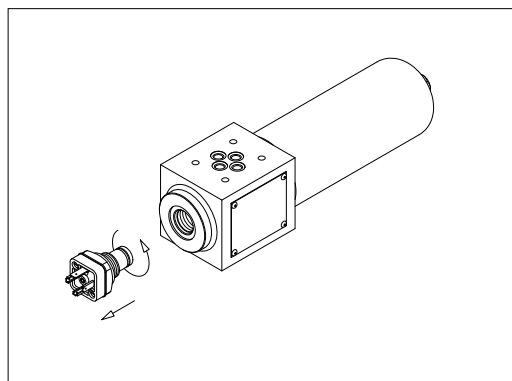

fig. 7
- (Fig. 7) Unscrew the indicator body